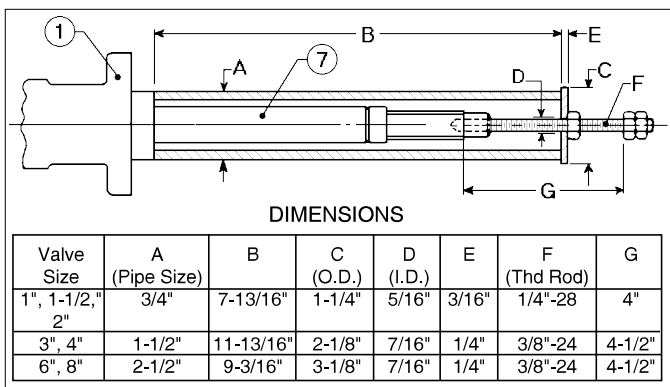

FIGURE 10: Stem Puller
- i. Pull yoke (12), packing flange (14), packing follower (15) and follower bushing strip (16) off over end of stem (7). Replace packing follower (15) if significantly corroded. Always replace follower bushing strip (16) when of standard construction. (**NOTE:** When Opt-38HT high temperature packing is supplied, the packing follower (15.1) contains a pressed-in carbon bushing (15.2) that is not field replaceable and must be supplied as a packing follower (15) subassembly.)
- j. Loosen stem retainer screw (17) by rotating CCW (viewed from above screw head) 2-3 revolutions to check for trapped fluid. After all fluid is vented, remove screw (17).
- k. Rotate stem (7) CW when viewed from actuator end of stem (7) to close plug (6).
- l. Withdraw stem subassembly (7), retainer sleeve subassembly (8) and packing set (13) out of body (1).
NOTE: If difficulty is encountered in removing the stem subassembly (7), use a puller assembly. See Figure 10. Hold the double nut with a wrench to prevent rotation of the stem as this could damage the seals if the trim is still in the valve body (1). Use the single nut to jack the stem subassembly (7) out.